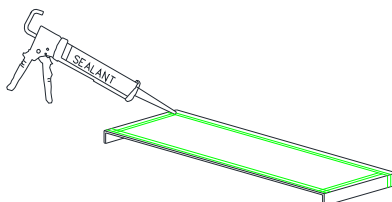

Figure 4:
- With bottom side of sillpan up, apply a 3/8" bead of compatible sealant 1/2" in from interior leg. Sealant bead to run across the bottom as well as up each vertical leg of the sill pan. Also apply sealant beads near the sides and across the front (Figure 4).